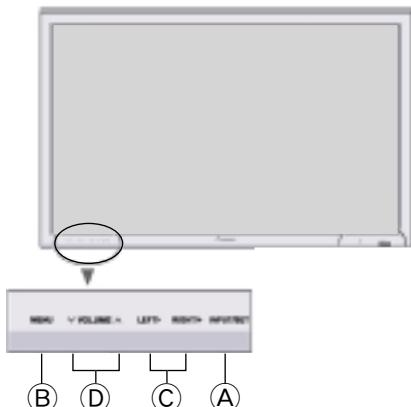

Fig. 4
- Press the Menu key (Ⓑ) again to close the service factory mode. (See Fig. 4)